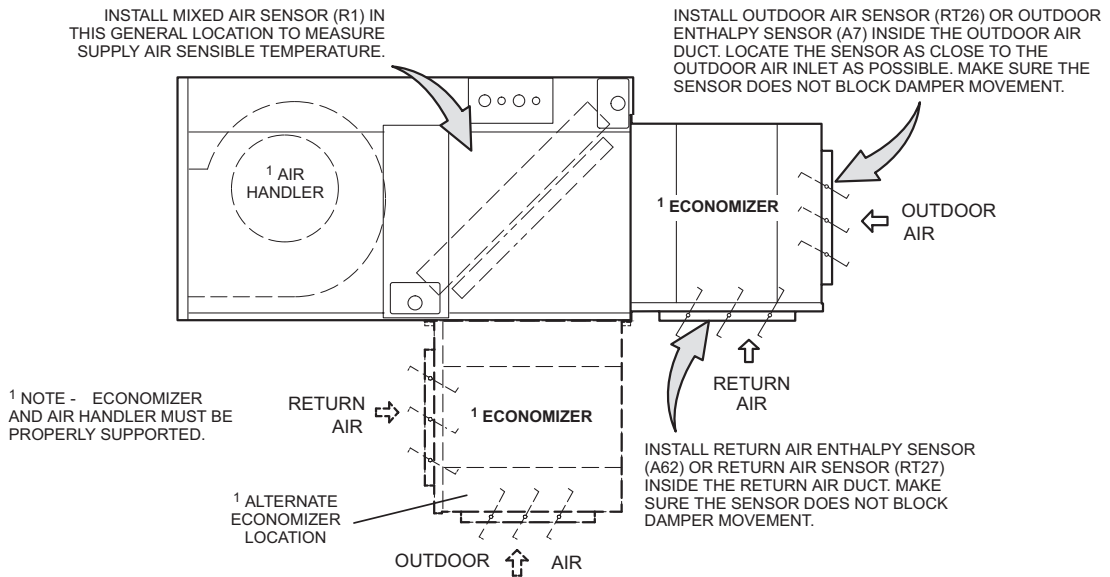

Figure 5
- 3 - Replace existing RT26 OA sensor, if applicable, and replace with new A7 sensor from this kit. See figure 5 for sensor location.
- 4 - Remove economizer control access panel. See figure 5.
- 3 - Replace existing RT26 OA sensor with new A7 kit sensor set to "OA". See figure 5 for sensor location.
- 5 - On A6 economizer control, remove orange wires going to terminals marked "OAT" and reconnect them to free terminals marked "SBUS". See figure 5.